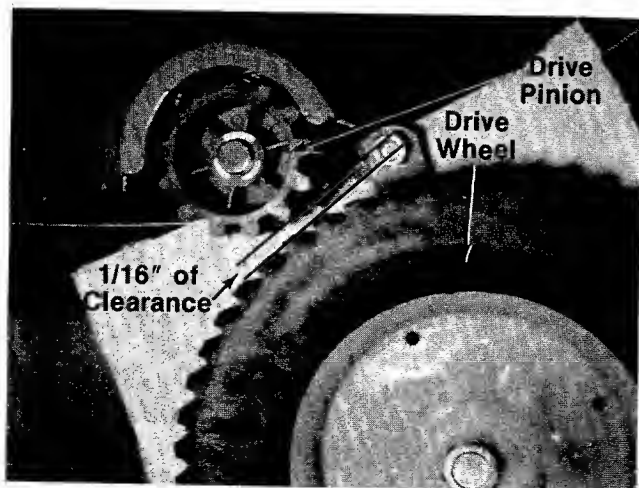

FIGURE 12.
21. Check the clutch rod adjustment as follows. The drive pinions should be approximately 1/16" from the drive wheels when the clutch is disengaged (handle is **not** pushed forward). See figure 12.
22. Press the plastic plug (G) into the hole in the top rear of the deck. Refer to illustration on page 16, reference number 79.